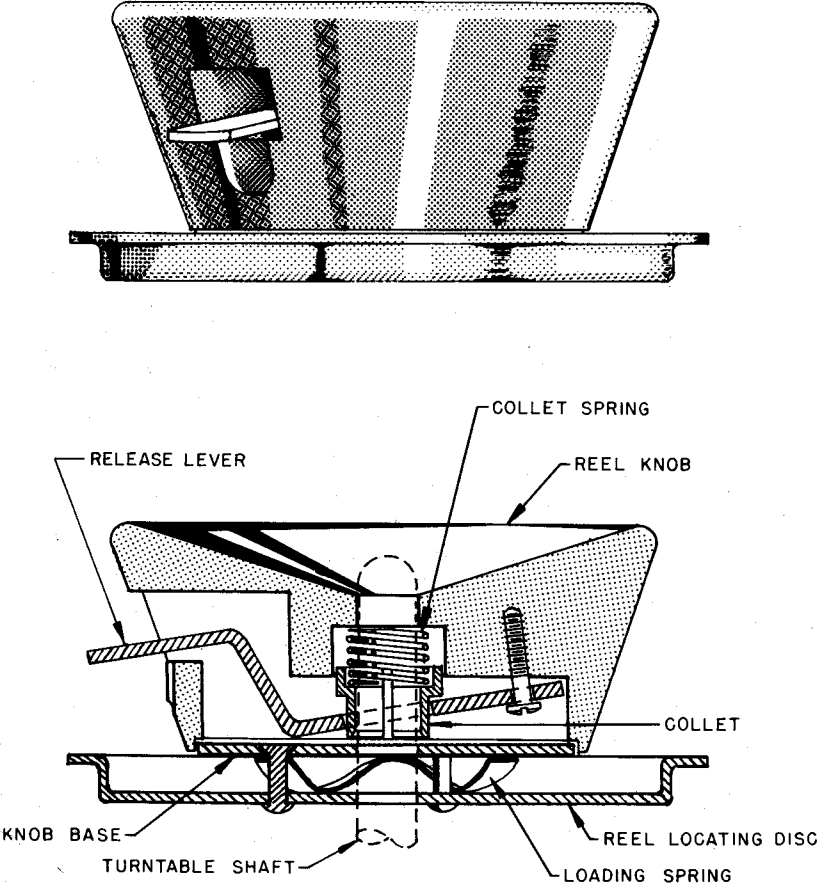

Fig. 2 Reel Holddown Knob
11. A reel hold-down or editing knob should be placed on each reel spindle. Editing knobs, catalog No. 1917, are furnished with console and portable recorders, while hold-down knobs, catalog No. 9093, are furnished with rack models (See Fig. 2).